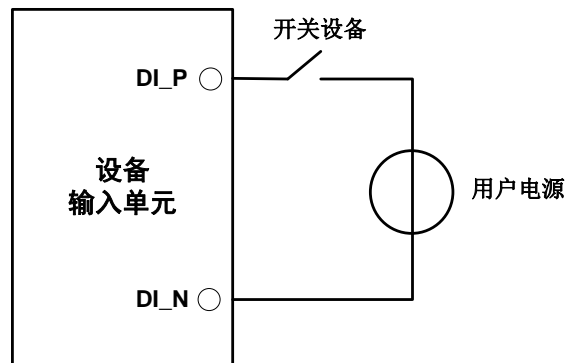

Figure 3.3 DI network connection
- 1) The timing recording mode is used to regularly collect the switching status of external equipment, such as valve closing and opening, motor start and stop, and contact connection and disconnection. Figure 3.3 shows the connection diagram.